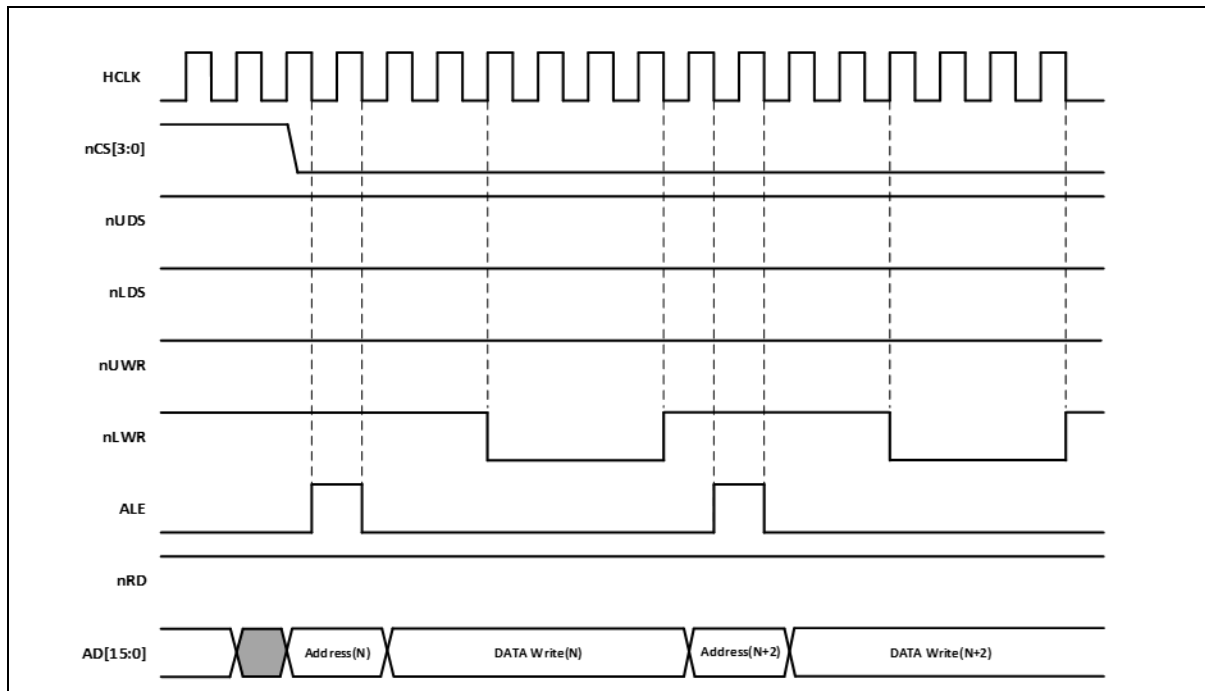
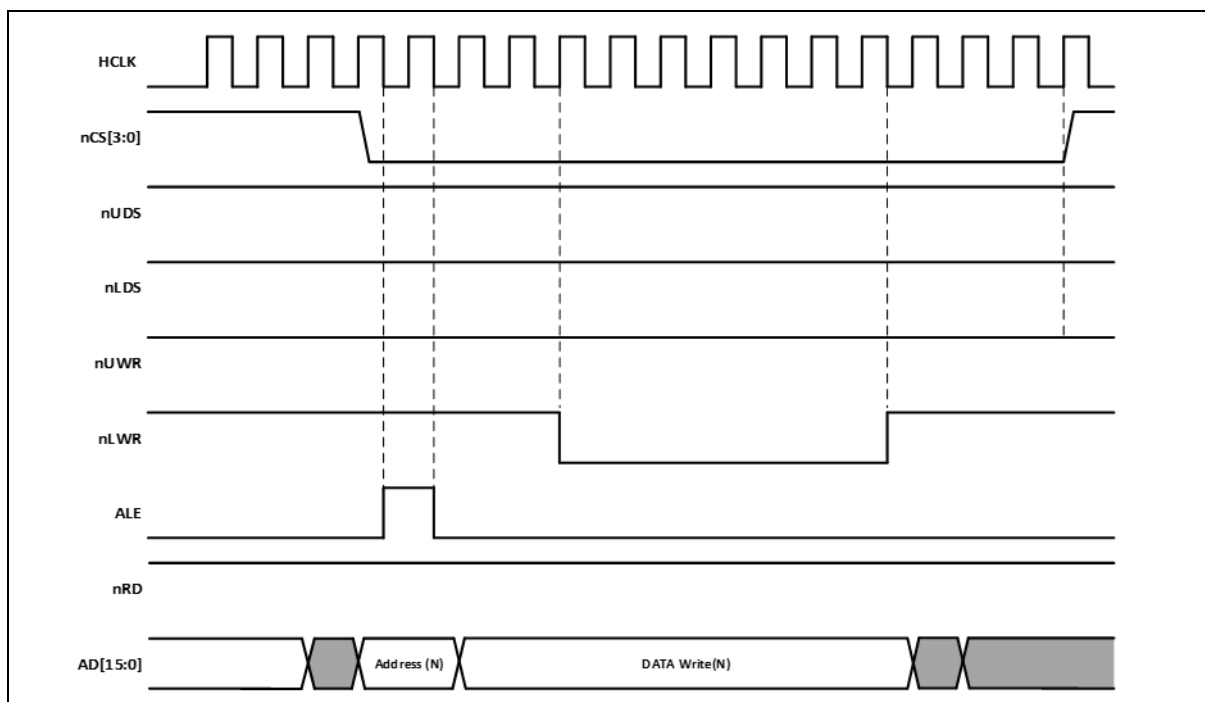

Figure 58. Word Write Operation with 16-bit Memory and 16-bit Bus
Figure 59. Half Word Write Operation with 16-bit Memory and 16-bit Bus
Figure 58 and Figure 59 show word (half word) write operations when “NORMWAIT = 2”. D[15:0] is used for 16-bit bus. Word (half word) write is possible with 2(1) times of memory access. Byte select signals (nUDS, nLDS) are used with nRD and nWE signals because 16-bit memory is used.